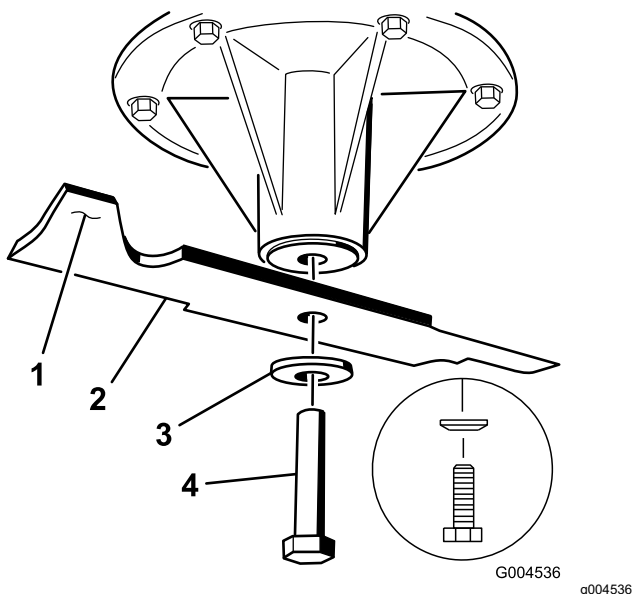

Figure 80
2. Install the blade onto the spindle shaft (Figure 80).
3. Install the curved washer and blade bolt (Figure 80).
Note: The curved washer cone must be installed toward the bolt head (Figure 80).